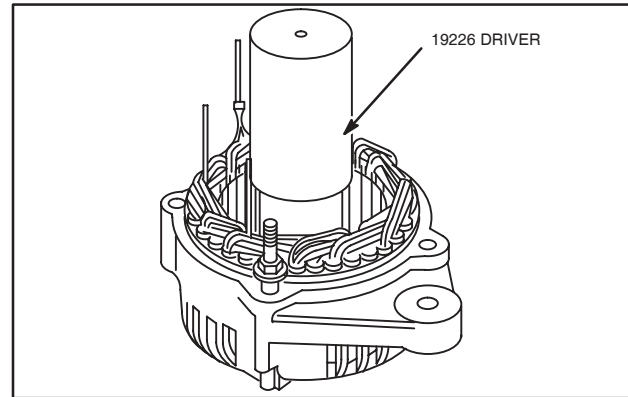

Fig. 30 – Install Ball Bearing
2. Press in new bearing using bearing driver #19226, Fig. 30.